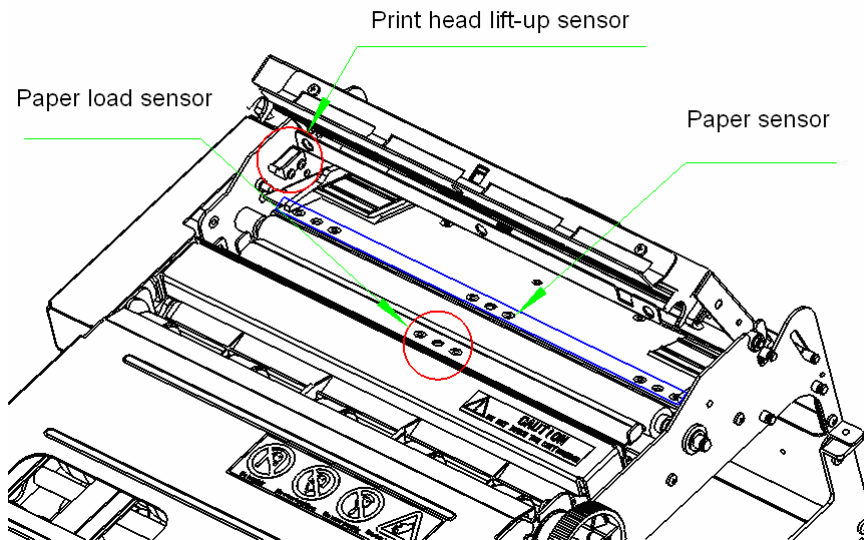

Fig.3.4.1 Sensors of print mechanism
- ✧ Paper sensor: Shown as in Fig. 3.4.1 Sensors of print mechanism, it is a reflection optical sensor used for detecting paper status and mark status. When finding paper end, the printer stop working and warn. Paper sensor can be adjusted at left, middle and right where could be set when out of factory according paper type.
- ✧ Paper load sensor: It is a reflection optical sensor used to position paper when semi-loading paper in the printer. This sensor can be set only in the middle shown as Fig. 3.4.1.
- ✧ Print head lift-up sensor: It is a microswitch used to detect print head status. When finding the print head lift up, the printer stops working and alarm shown as Fig. 3.4.1.